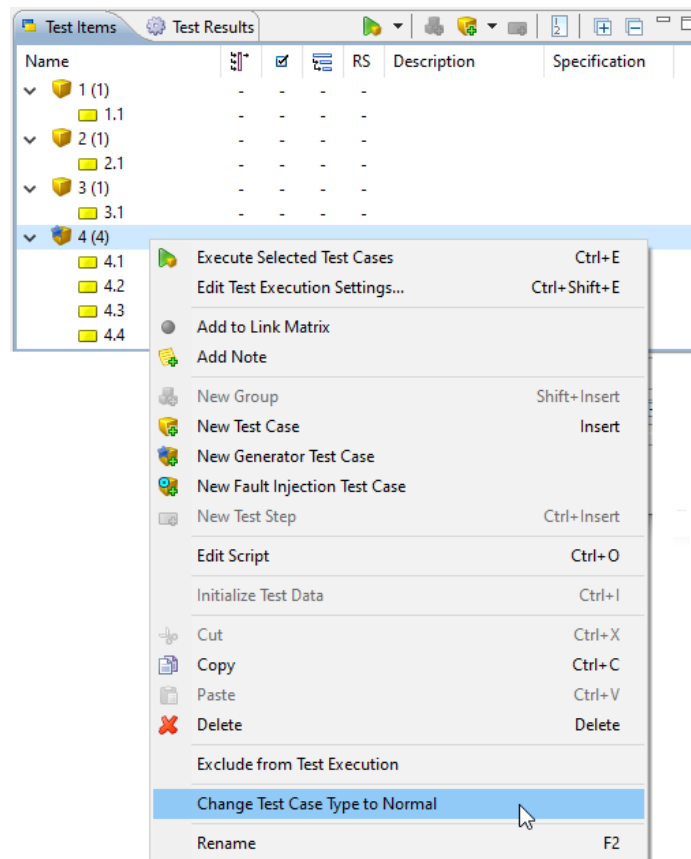

Figure 6.213: Selecting “Change Test Case Type to Normal”
- Right-click the test case and select “Change Test Case Type to Normal” (see figure 6.213).